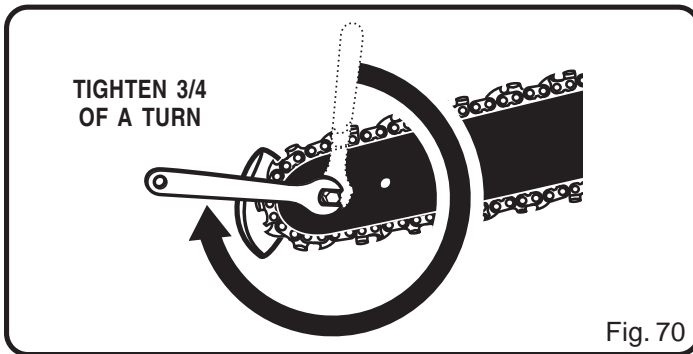

Fig. 70
See Figure 70.
1. Mount the SAFE-T-TIP® on the bar nose. See Figure 70.